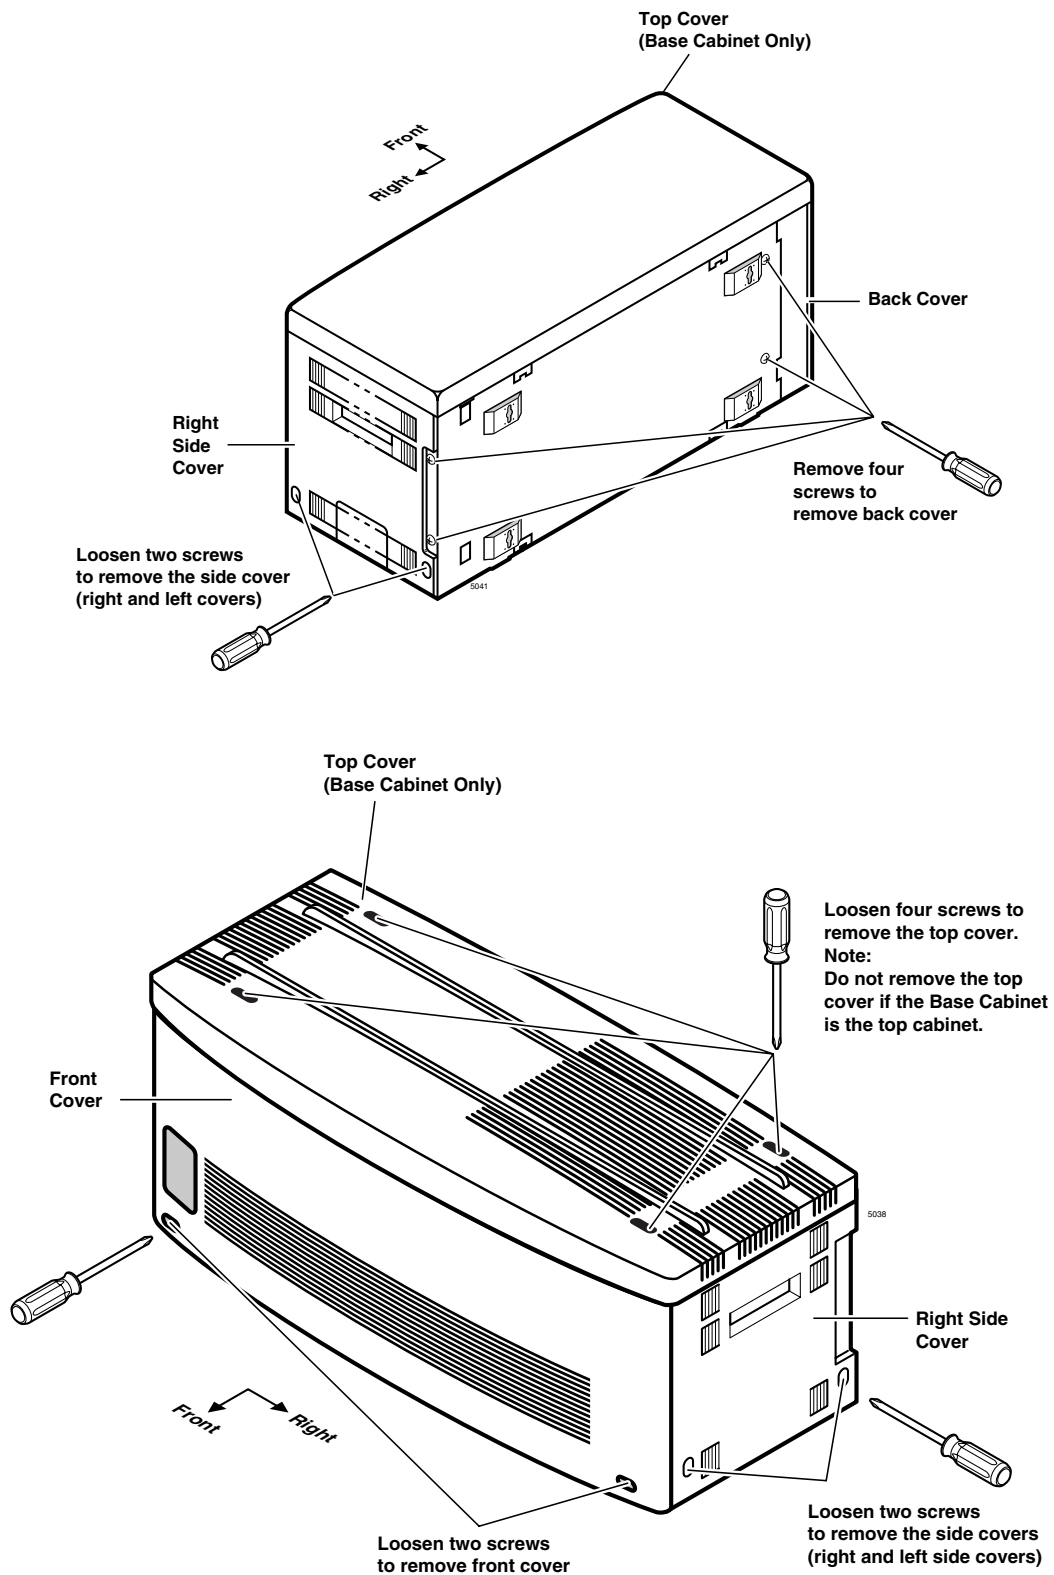

Figure 3-5 Cabinet Cover Removal and Installation
2. Make sure that the front and right side covers are removed from the cabinet (see Figure 3-5).
1. Remove the front and right side covers (Figure 3-5) from the cabinet. Remove the right side covers of other cabinets as needed to disconnect wiring.
2. Remove the front, back, and side covers from the Base Cabinet or first Remote Expansion Cabinet (see Figure 3-5).